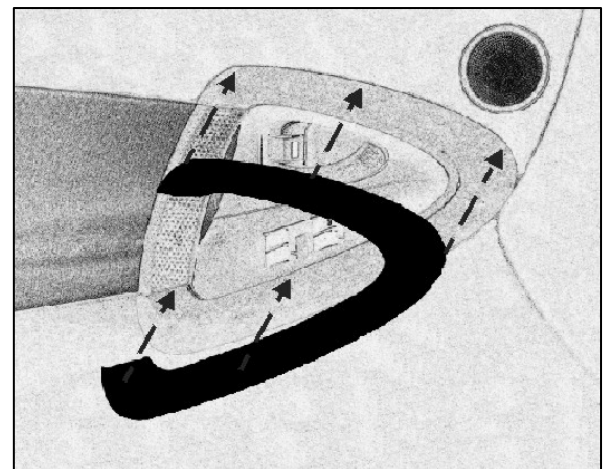

Fig. 10-1
- i) Align and adhere the top of the door handle first, then align and adhere the bottom of the handle second. Adhere remainder of the part by evenly working down towards end of the part. (Fig.10-1)